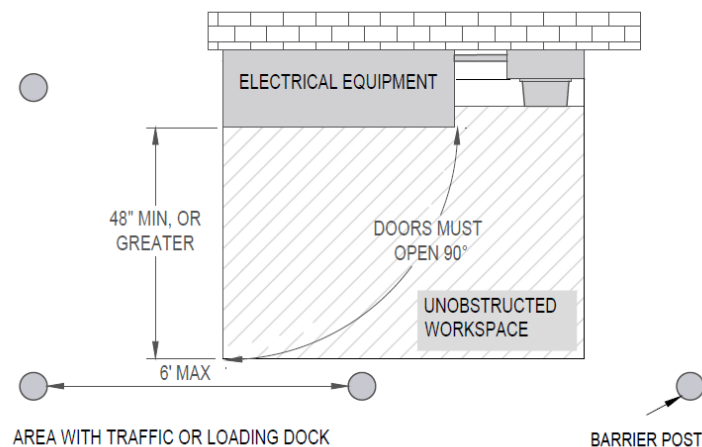

Figure 41. Placement and Clearances for Barrier Posts Around Electrical Equipment (STD-D-3292)
- PGE requires 10' of unobstructed working clearance in front of primary conductor connections (see Figure 41); do not locate barrier posts in front of the left half of padmounted equipment or vaults (see Figure 42).